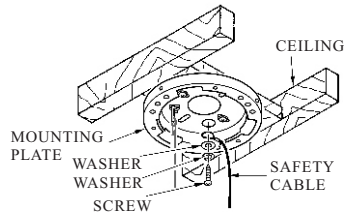

FIG.4
1. Install the mounting plate onto ceiling with provided washers and screws. Install the safety cable onto the ceiling with the wood screw provided.(see fig.4)